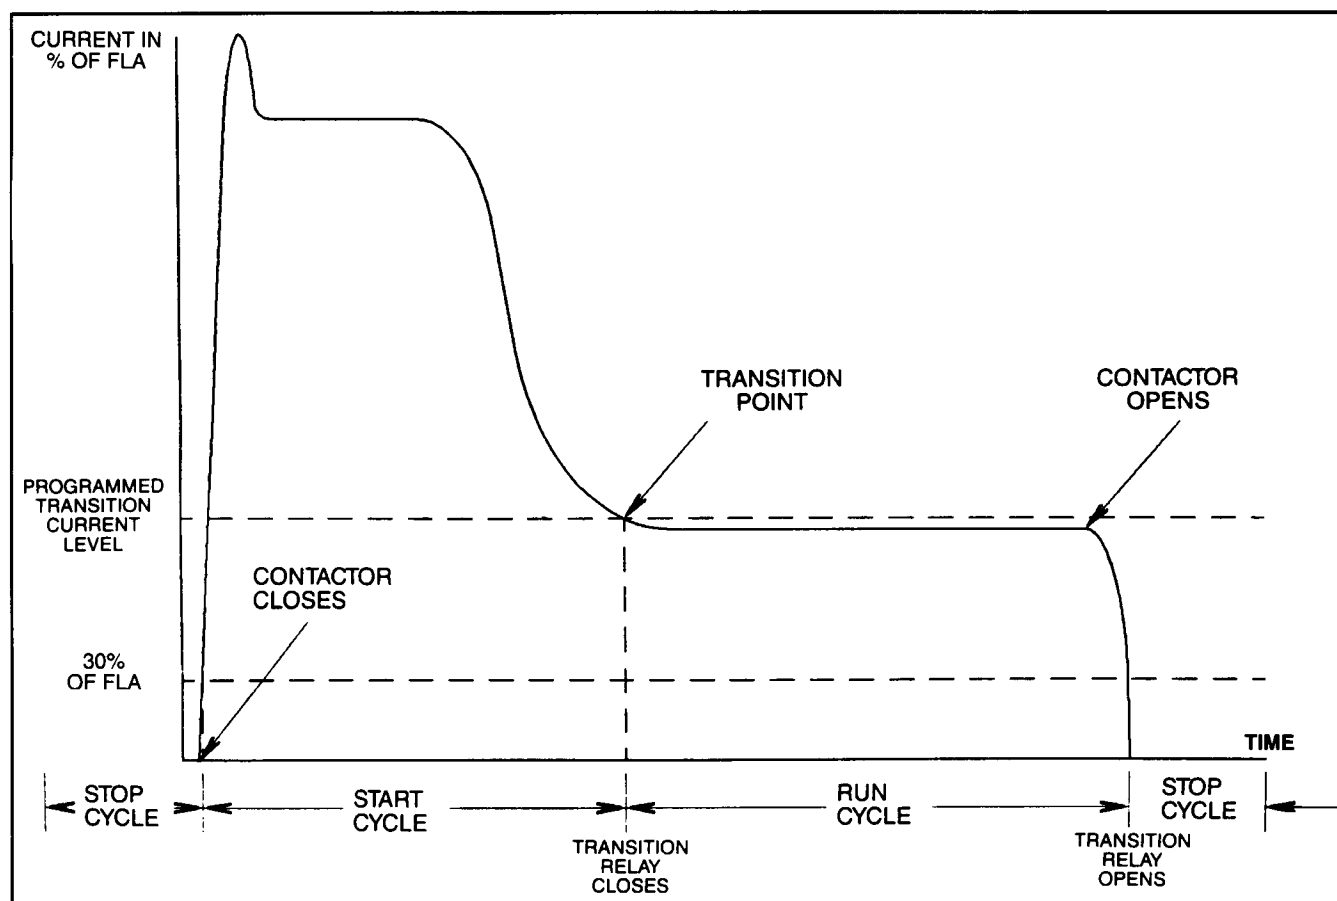

Figure 7.6 — Motor Start and Run Cycles
**7.2.1 Start Cycle** — The relationship between the IQ-1000 II and the motor current level during a start cycle is shown in Figure 7.6.
**7.2.2 Run Cycle** — Once the transition occurs, the motor's run cycle is initiated and the message "RUN" is displayed. The run cycle continues until the monitored motor current level falls below 5% of its full-load amperes setpoint (item 42) at which point a stop is declared and the IQ-1000 II returns to the "READY -- 3" or stop mode. (See Figure 7.6.)